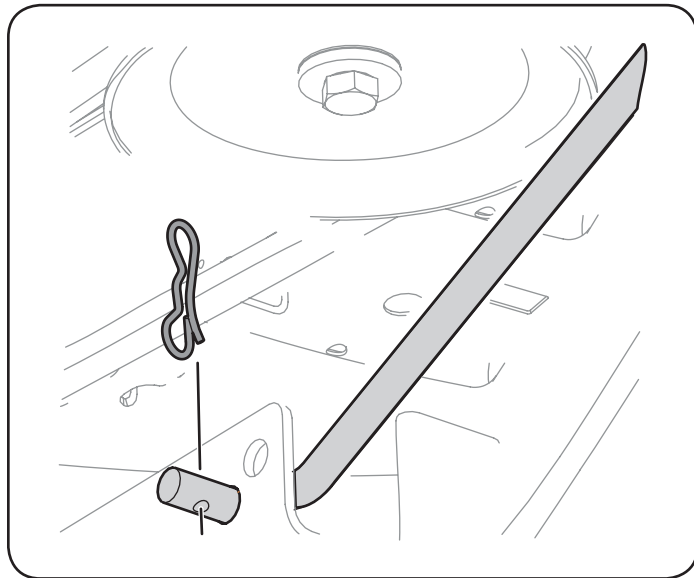

Figure 22
9. Pull the bow-tie pin out of the front deck lift rod securing it to the deck. See Figure 22. Slide the deck lift rod out of the front hanger bracket.